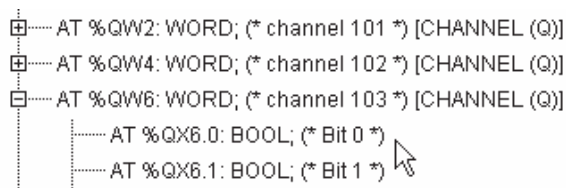

Figure 10-5-6 Address of Output Area
- The data A, B sent to PC by PLC are stored in %QW2, %QW4 shown in figure 10-5-6, and data C is stored in %QX6.0.